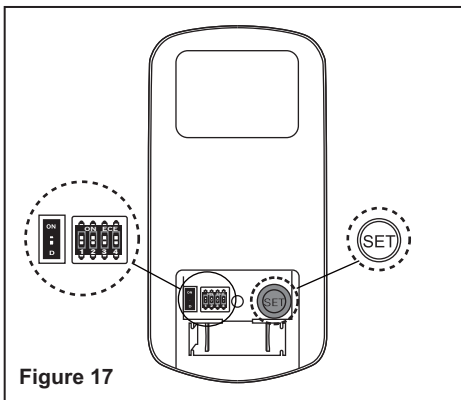

Figure 17
⌘ button: Controls light. Switch the “D” and “ON” dip switch on the back of transmitter to decide the light in “ON/OFF” or “Dimmable” condition. (Fig. 17)
a) Select desired frequency from the transmitter. The dip switches can be set to 16 different combinations. (Fig. 17)
b) From the back of the transmitter, with the fan’s power off, restore power to the fan. Press and hold “SET” button for about 5 seconds and release. If optional light kit is installed, the light kit will flash twice and the signal light on the hand held transmitter will come on when the button is pressed. The fan has completed the pairing process with the remote control and is ready for use. (Fig. 17)